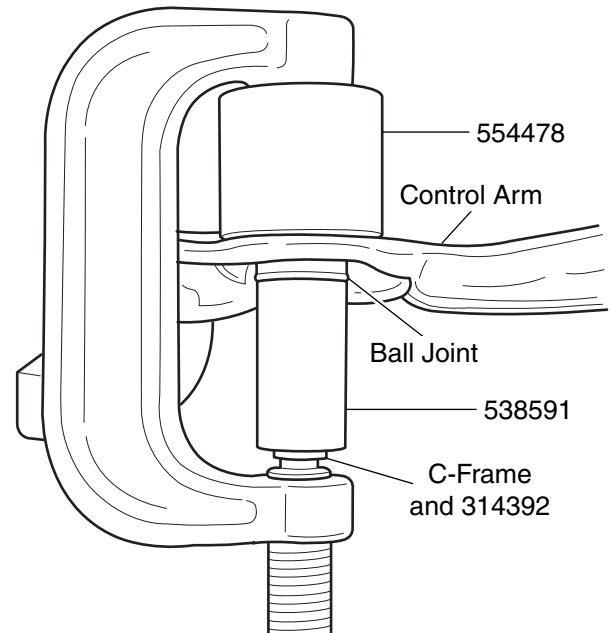

Figure 1. Ball Joint Removal
3. Position 554478, 314392 and the C-Frame as shown in Figure 1.